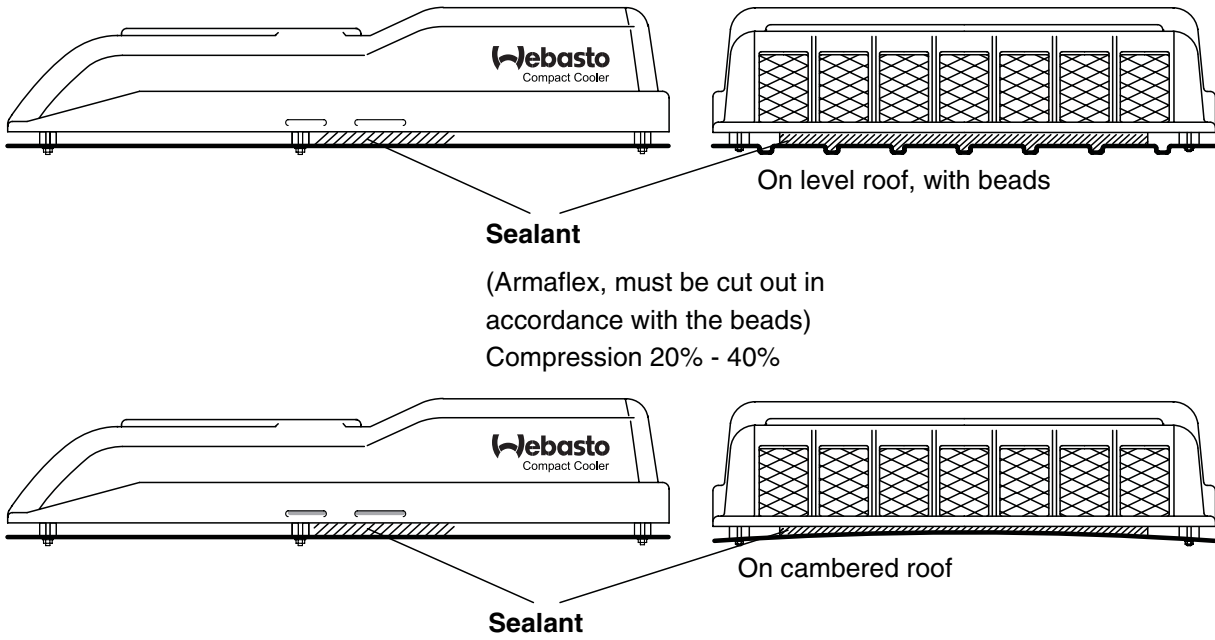

Fig. 4.2
- a) The height of the sealing frame must be cut / adapted to the roof contour (beads/gutters/camber) is such a way as to seal the contours in Fig. 4.2.